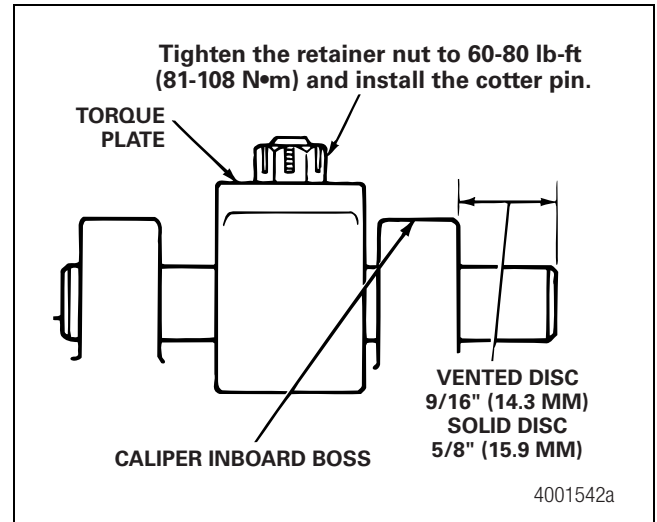

Figure 3.7
5. To correctly install the slide pin, the pin must extend past the inboard boss of the caliper, as shown in Figure 3.7.
6. Check for grease on the slide pin retainer threads. Wipe clean, if necessary. Tighten the nut on the slide pin retainer to 60 lb-ft (81 N•m). Figure 3.7.